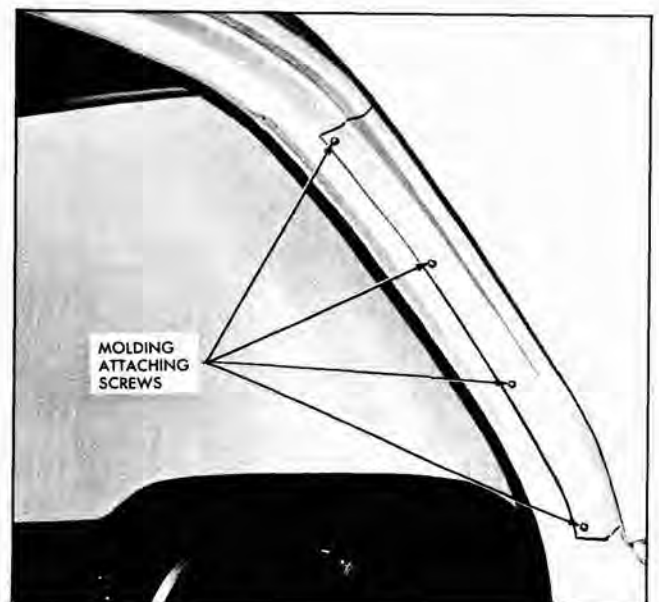

Fig. 12-18 Windshield Pillar Drip Moldings
1. On "17", "19", "27" and "35" styles remove screws securing drip molding (Fig. 12-18) and remove molding.